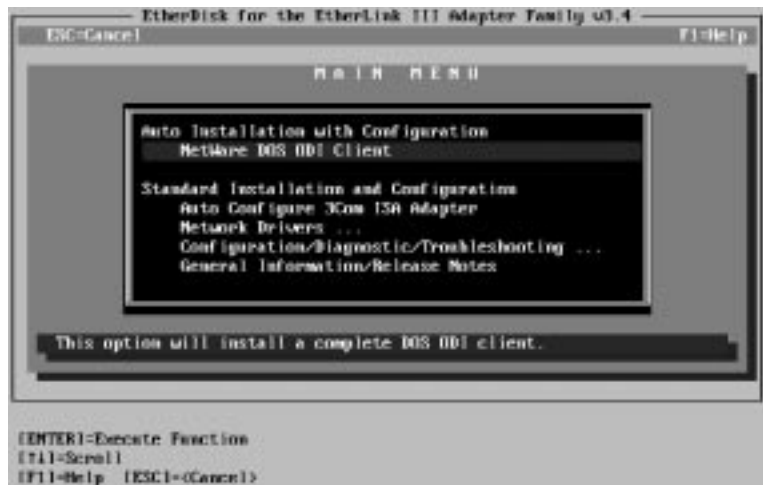

Figure 5-2. Main Menu
7. When the main menu screen shown in Figure 5-2 appears, select NetWare DOS ODI Client and press [Enter].
1. Return to the main menu shown in Figure 5-2.
2. When the main menu screen shown in Figure 5-2 appears, select Network Drivers and press [Enter].